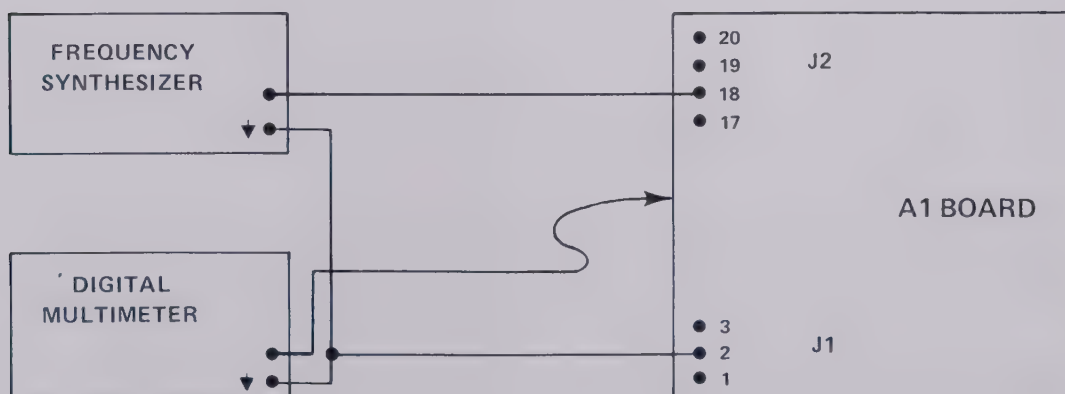

Figure 2-2. Equipment Set-Up
Step 1: Connect the A1 board to the frequency synthesizer and digital multimeter as shown in Figure 2-2.